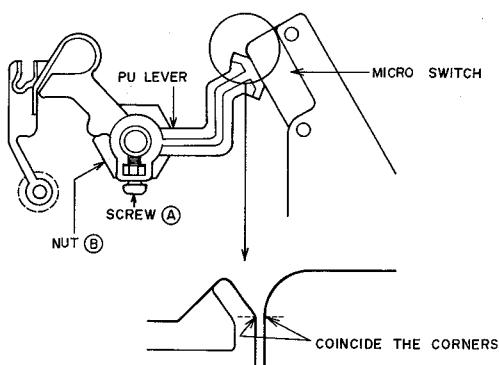

Fig. 6-3
### 6-3. RETURN ARM POSITION ADJUSTMENT (Refer to Figs. 6-3 & 6-4)
- 3) Turn the PU LEVER so that the corner of those PU LEVER and Micro switch are coincide as shown in Fig. 6-3.